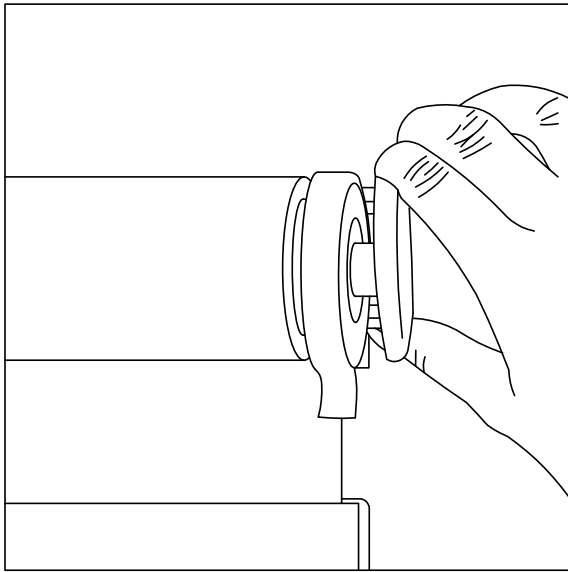

Fig. 6
A. Once the brackets are in place, proceed with the installation of the shade. [Fig. 6, 7, 8, 9]